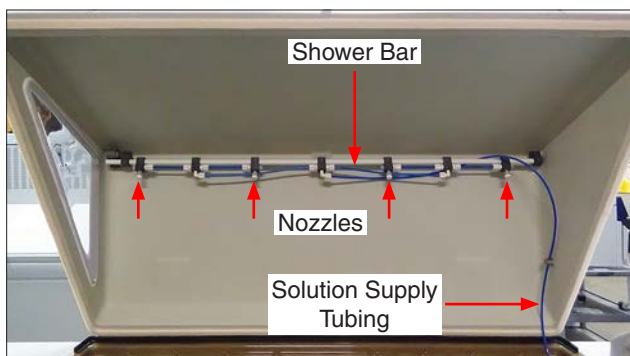
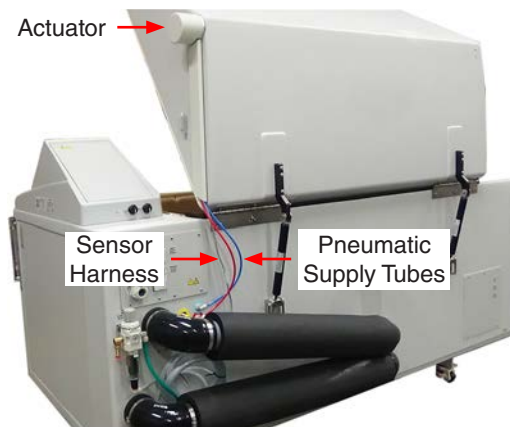

Figure 8.11a: TSSB Assembly.
Figure 8.11d: The TSSB actuator, pneumatic supply tubes, and sensor harness.
- The TSSB assembly includes a shower bar with spray nozzles, actuator assembly, pneumatic and solution supply tubes, and sensor wire harnesses (Figure 8.11a through Figure 8.11d).